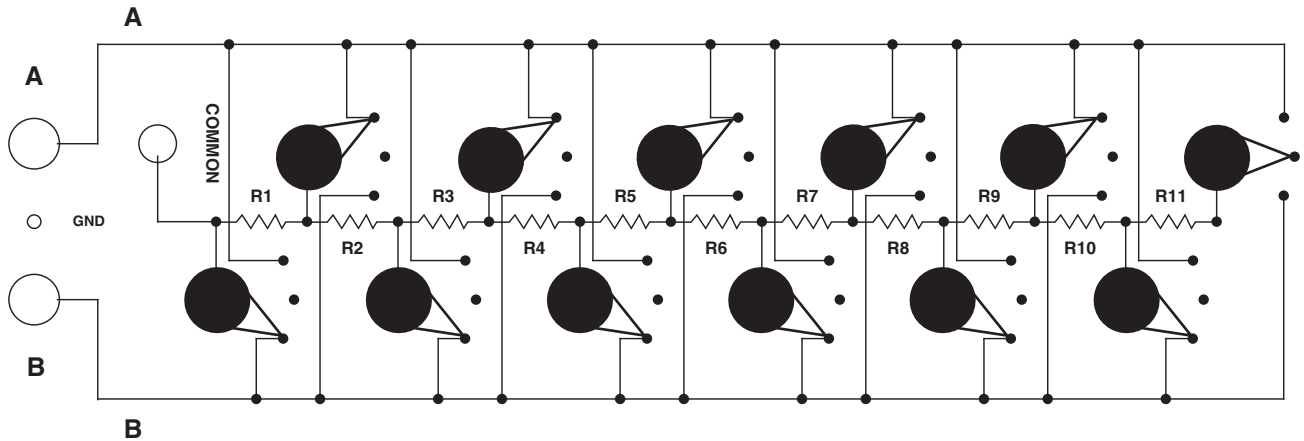

Figure 4-7: Resistance = $R/10$: ten resistors in parallel
- For a composite value of $R/10$, see Figure 4-7.
For example, a 100 kΩ standard may be compared with a HATS-Y unit with 1 MΩ steps connected in parallel as shown in Figure 4-7 above, to provide a 100 kΩ resistance. Once a comparison is made, a net deviation of the parallel R/10 combination is obtained.